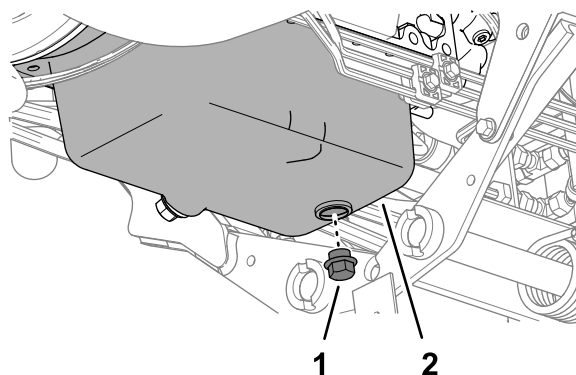

Figure 80
4. Remove the drain plug (Figure 80) and let the oil drain into the pan.